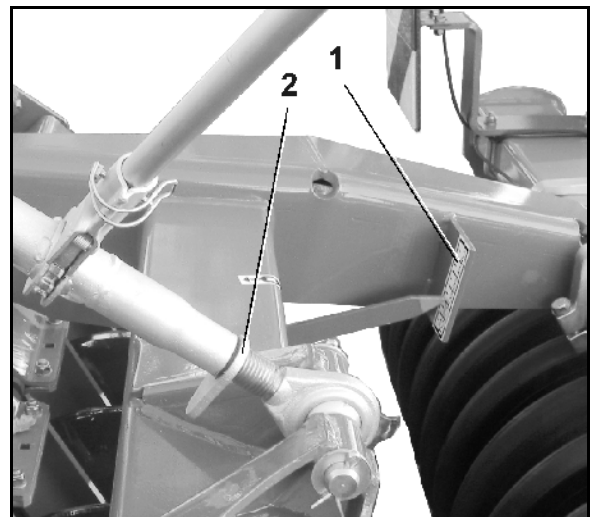

Fig. 25
2. Check the set working depth using the scale on the carrying arms of the wedge ring roller (Fig. 25/1).
3. Lock the position of the setting spindles with locking levers (Fig. 25/2).